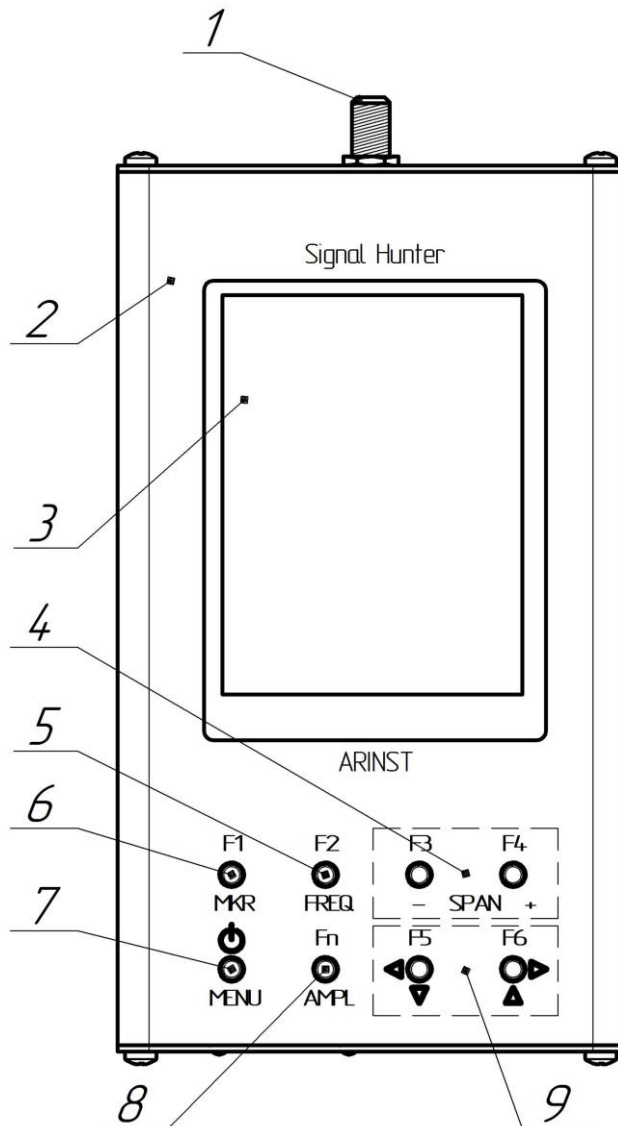

Figure 5.1 – Composition
5.1. The composition of **ARINST SSA R2 Signal Hunter** spectrum analyzer is shown in Figures 5.1 and 5.2.